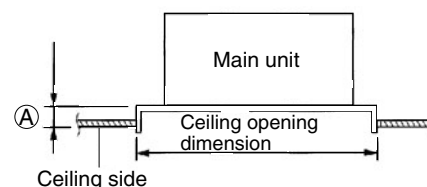

Fig. 3-13
- Ⓐ must be within the range of $15/32 - 43/64$ in. (Fig. 3-13)